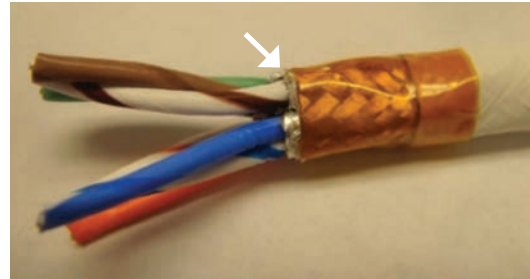

Figure 8: Tearing the foil
6. Using cutters, cut the foil edge where it meets the tape (Figure 8). Tear the foil along the tape edge.